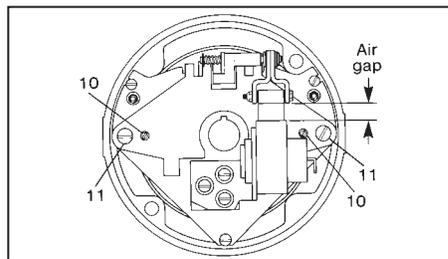

Figure 7
Note 1: Both adjustment screws (11) on Figure 7 must be turned equal amounts counterclockwise to decrease torque.
2. Manually lift solenoid plunger to maximum travel. Depress and allow solenoid plunger to snap out several times. See Figure 7. Measure solenoid air gap between mating surfaces of solenoid frame and solenoid plunger. (On vertically mounted brakes, it will be necessary to push solenoid plunger into solenoid frame to the point where spring pressure is felt, before measuring solenoid air gap.) As friction disc wear
3. The solenoid air gap may be decreased by turning both wear adjustment screws (10) equal amounts clockwise, approximately 1/8 turn, until approximate solenoid gap is attained. Counterclockwise rotation will increase gap. See Figure 7. Repeat Step 2.